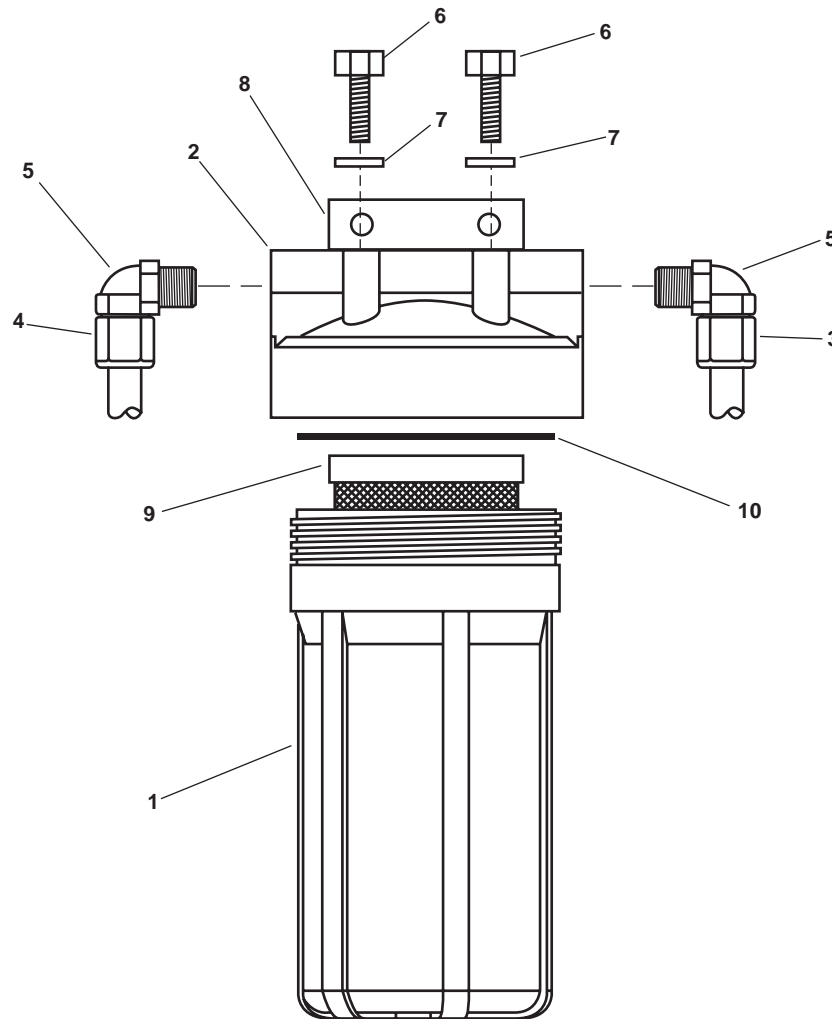

Figure 1. Charcoal Filter Assembly
1. Unscrew the applicable filter bowl (figure 1, item 1) from the lid (figure 1, item 2).
2. Disconnect the inlet tubing (figure 1, item 3) and outlet tubing (figure 1, item 4) from the pipe fittings (figure 1, item 5).
3. Remove the four sets of bolts (figure 1, item 6) and four flat washers (figure 1, item 7) that secure the lid (figure 1, item 2) to the mounting bracket (figure 1, item 8).
4. Remove the pipe fittings (figure 1, item 5) from the lid (figure 1, item 2).
5. Remove the carbon briquette (filter element) (figure 1, item 9) from the filter bowl (figure 1, item 1). Discard the carbon briquette.
6. Remove the O-ring (figure 1, item 10) from the filter bowl (figure 1, item 1). Discard the O-ring.
1. Install the pipe fittings (figure 1, item 5) into the lid (figure 1, item 2).
2. Position the lid (figure 1, item 2) to the mounting bracket (figure 1, item 8), and secure it in place with four bolts (figure 1, item 6) and four flat washers (figure 1, item 7).
3. Connect the outlet tubing (figure 1, item 4) and inlet tubing (figure 1, item 3) to the pipe fittings (figure 1, item 5).
4. Inspect for and remove any debris and foreign matter from the filter bowl (figure 1, item 1).
5. Thoroughly clean the lid (figure 1, item 2), using fresh water and clean rags.
6. Place a new carbon briquette (filter element) (figure 1, item 9) into the filter bowl (figure 1, item 1).
7. Lubricate a new O-ring (figure 1, item 10) with silicone lubricant and install it in the groove in the filter bowl (figure 1, item 1).
8. Position the filter bowl (figure 1, item 1) in contact with the lid (figure 1, item 2) and tighten until snug.